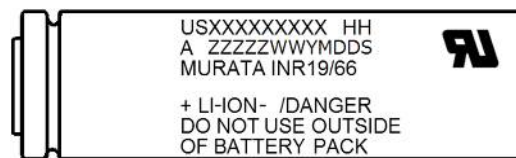

Fig.1
5.2 Model Name(Fig.1:USXXXXXXXXX)
5.3 Factory(Fig.1 : A for factory code)
【Fig.1】 SG or G : Murata Electronics Singapore (Pte.) Ltd. Tuas Plant.
5.4 Specification(Fig.1 : HH for Cell Type)
5.5 Lot Number(Fig.1: YMDDS for Manufacturing Date of Cells)